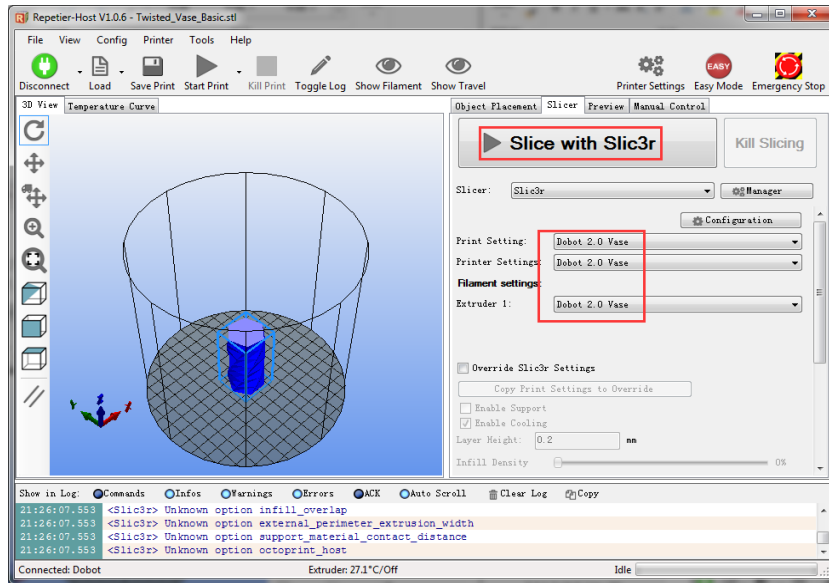

Figure 5.142 Start to slice
- Click **Slici with Slic3r** on the **Slicer** tab of the **Repetier Host** page, as shown in Figure 5.142.